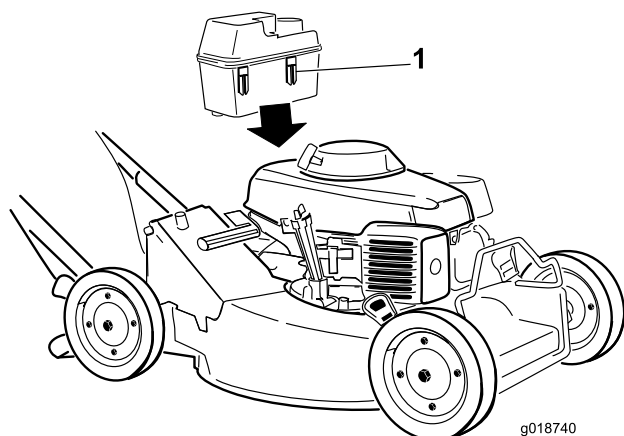

Figure 5
1. Slide the plastic clips, on the front of the fuel tank, onto the fuel tank mount (Figure 5).